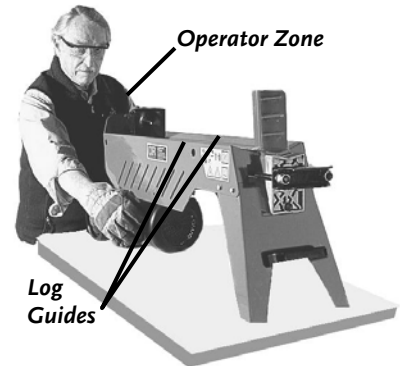

Figure 7
- **ALWAYS** BE SURE TO STAND INSIDE THE OPERATOR ZONE TO RUN THE WOOD SPLITTER (FIGURE 7). THIS IS THE AREA DIRECTLY BEHIND YOUR DR 5 -TON ELECTRIC WOOD SPLITTER. NEVER OPERATE THE WOOD SPLITTER FROM ANYPLACE ELSE.
- FOR BEST SPLITTING RESULTS, PLACE LOG FLAT ON THE BEAM BETWEEN THE LOG GUIDES (FIGURE 7) WITH BUTT END TOWARD HYDRAULIC CYLINDER RAM.